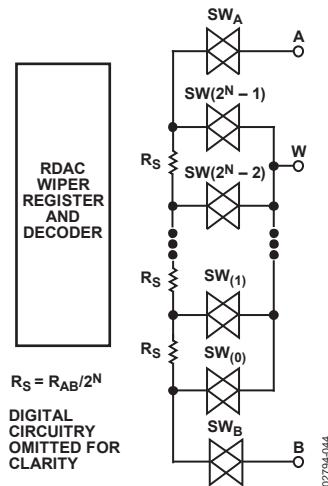

Figure 43. Equivalent RDAC Structure
The patent-pending RDAC contains multiple strings of equal resistor segments, with an array of analog switches that act as the wiper connection. The number of positions is the resolution of the device. The AD5233 has 64 connection points, allowing it to provide better than 1.5% set ability resolution. Figure 43 shows an equivalent structure of the connections between the three terminals of the RDAC. The SW_A and SW_B are always on, while the switches, SW(0) to SW(2^N–1), are on, one at a time, depending on the resistance position decoded from the data bits. Because the switch is not ideal, there is a 15 Ω wiper resistance, R_w. Wiper resistance is a function of supply voltage and temperature. The lower the supply voltage or the higher the temperature, the higher the resulting wiper resistance. Users should be aware of the wiper resistance dynamics if an accurate prediction of the output resistance is needed.
The 6-bit data-word in the RDAC latch is decoded to select one of the 64 possible settings. The following discussion describes the calculation of resistance (R_{WB}) at different codes of a 10 kΩ part. For V_{DD} = 5 V, the wiper's first connection starts at Terminal B for Data 0x00. R_{WB}(0) is 15 Ω because of the wiper resistance and because it is independent of the nominal resistance. The second connection is the first tap point, where R_{WB}(1) becomes 156 Ω + 15 Ω = 171 Ω for Data 0x01. The third connection is the next tap point, representing R_{WB}(2) = 321 Ω + 15 Ω = 327 Ω for Data 0x02, and so on. Each LSB data value increase moves the wiper up the resistor ladder until the last tap point is reached at R_{WB}(63) = 9858 Ω. See Figure 43 for a simplified diagram of the equivalent RDAC circuit. When R_{WB} is used, Terminal A can be left floating or tied to the wiper.